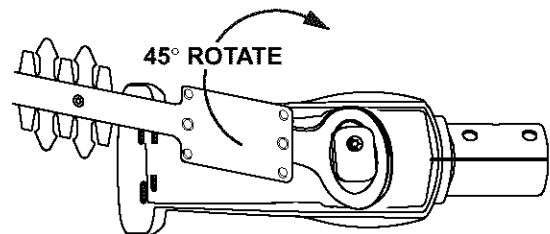

Fig. 11
6. Remove the blade by lifting and rotating it so that the blade yokes clears the lower cam first (Fig. 11).
- Rotate the blade so that it drops past the lower cam (see Fig. 11).
- Install the four (4) blade screws. Torque screws to **10-15 in•lbs.**